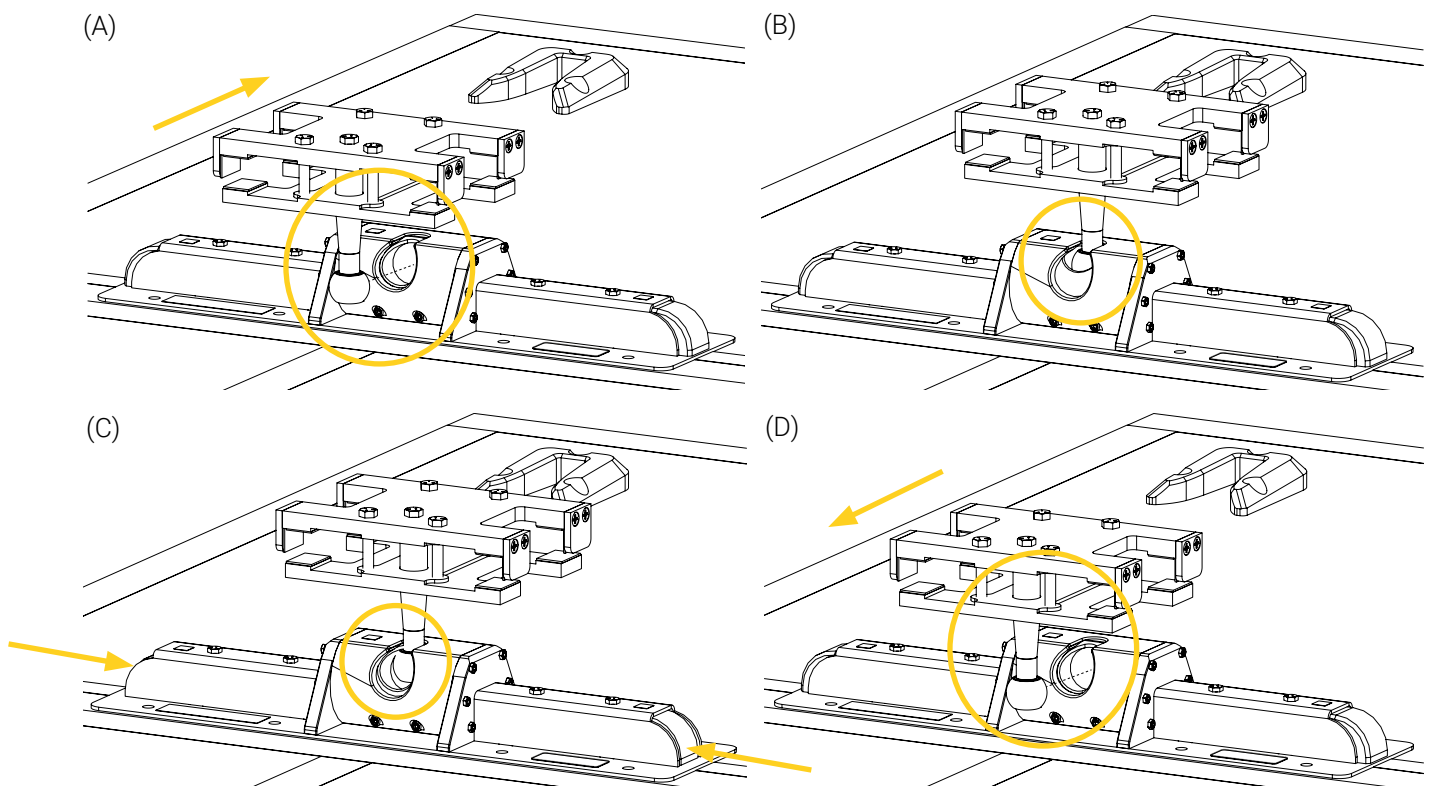

Figure 15: Locking/unlocking the AnchorMed
- **To lock the AnchorMed:** Align and insert the stretcher's caster wheels in the Caster Floor Guides using the alignment decals. Push the stretcher in the anchoring system until the Foot End Anchoring Hitch of the AnchorMed Stretcher Mount inserts in the Floor Anchor of the AnchorMed Floor Mount (Figure 15 A) and the push-lock barrel mechanism topples over in the locked position. When the click sound is heard, the stretcher is secured (Figure 15 B).
- **To unlock the AnchorMed:** Push forward and hold the Quick-release foot controls of the Floor Anchor simultaneously using the two (2) people operation requirement technique to unlock the push-lock barrel mechanism and release the Foot End Anchoring Hitch from the Floor Anchor (Figure 15 C), then pull the stretcher out of the anchoring system (Figure 15 D).